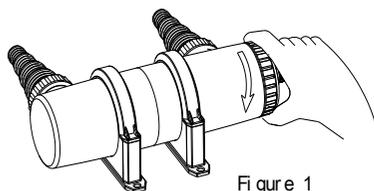

Figure 1
- Unscrew the wired end cap anti-clockwise. See figure 1 below.